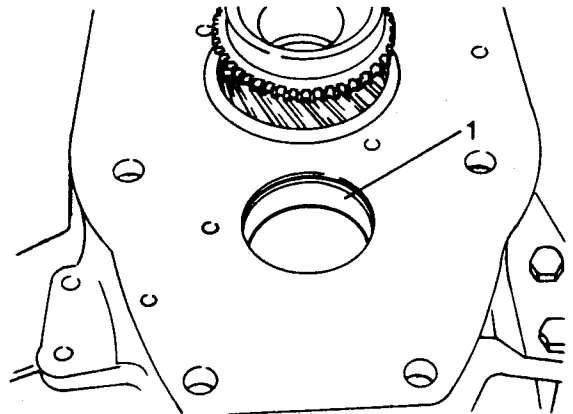

Fig H1.77
- (5) Refer to Fig H1.77. Remove the outer track (1) of the layshaft front bearing.